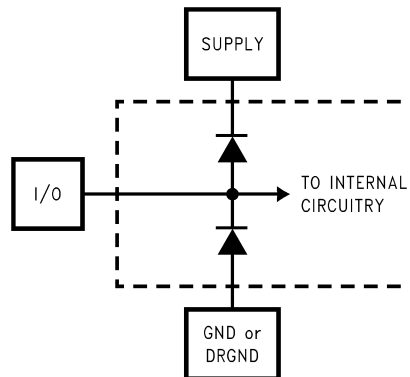

Figure 1.
- (1) The inputs are protected as shown below. Input voltage magnitudes above V_A or below GND will not damage this device, provided current is limited per ⁽¹⁾. However, errors in the A/D conversion can occur if the input goes above V_A or below GND by more than 100 mV. As an example, if V_A is 4.75V, the full-scale input voltage must be $\leq 4.85V$ to ensure accurate conversions. See Figure 1
- (2) To ensure accuracy, it is required that $|V_A - V_D| \leq 100\text{ mV}$ and separate bypass capacitors are used at each power supply pin.
- (3) With the test condition for $V_{REF} = +2.0V$ (4V_{P-P} differential input), the 12-bit LSB is 977 μV .
- (4) Typical figures are at $T_A = T_J = 25^\circ\text{C}$, and represent most likely parametric norms. Test limits are specified to TI's AOQL (Average Outgoing Quality Level).
- (5) Integral Non Linearity is defined as the deviation of the analog value, expressed in LSBs, from the straight line that passes through positive and negative full-scale.
- (6) Optimum performance will be obtained by keeping the reference input in the 1.8V to 2.2V range. The LM4051CIM3-ADJ (SOT-23 package) is recommended for this application.
- (2) To ensure accuracy, it is required that $|V_A - V_D| \leq 100$ mV and separate bypass capacitors are used at each power supply pin.
- (4) Typical figures are at $T_A = T_J = 25^\circ C$, and represent most likely parametric norms. Test limits are specified to TI's AOQL (Average Outgoing Quality Level).
- (5) Typical figures are at $T_A = T_J = 25^\circ C$, and represent most likely parametric norms. Test limits are specified to TI's AOQL (Average Outgoing Quality Level).
- (6) I_{DR} is the current consumed by the switching of the output drivers and is primarily determined by load capacitance on the output pins, the supply voltage, V_{DR} , and the rate at which the outputs are switching (which is signal dependent). $I_{DR} = V_{DR}(C_0 \times f_0 + C_1 \times f_1 + \dots + C_{11} \times f_{11})$ where V_{DR} is the output driver power supply voltage, C_n is total capacitance on the output pin, and f_n is the average frequency at which that pin is toggling.
- (7) Excludes I_{DR} . See previous note.
- (1) The inputs are protected as shown below. Input voltage magnitudes above V_A or below GND will not damage this device, provided current is limited per ⁰. However, errors in the A/D conversion can occur if the input goes above V_A or below GND by more than 100 mV. As an example, if V_A is 4.75V, the full-scale input voltage must be $\leq 4.85V$ to ensure accurate conversions. See Figure 1
- (4) Timing specifications are tested at TTL logic levels, $V_{IL} = 0.4V$ for a falling edge and $V_{IH} = 2.4V$ for a rising edge.
- (5) Typical figures are at $T_A = T_J = 25^\circ\text{C}$, and represent most likely parametric norms. Test limits are specified to TI's AOQL (Average Outgoing Quality Level).